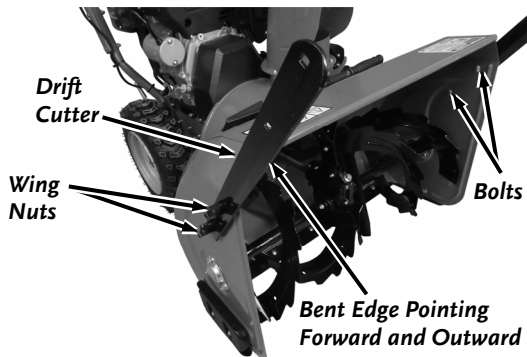

Figure 21
1. Position the Drift Cutters and secure each one with two Carriage Bolts and Plastic Nuts (**Figure 21**).